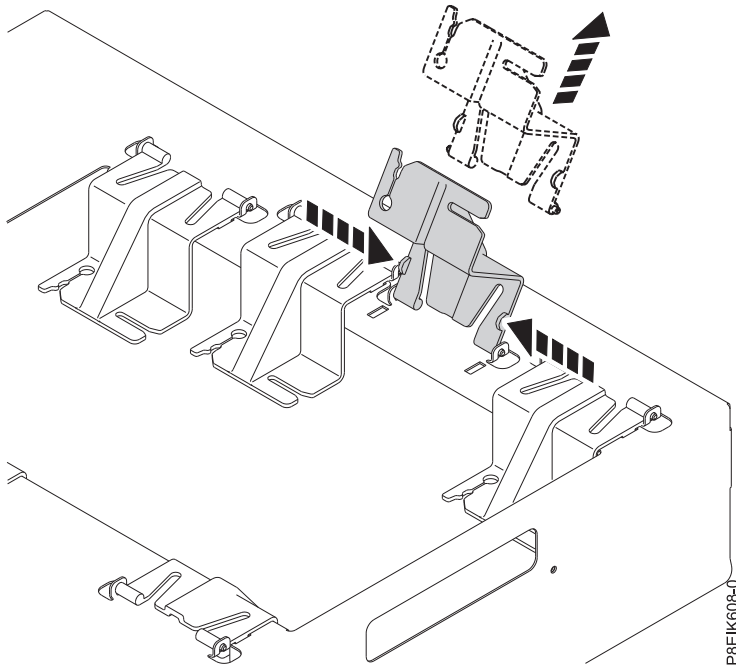

Figure 17. Removing holder from carrier
- a. Pivot the holder up. Pinch in at the sides to remove the holder from the carrier as shown in Figure 17.